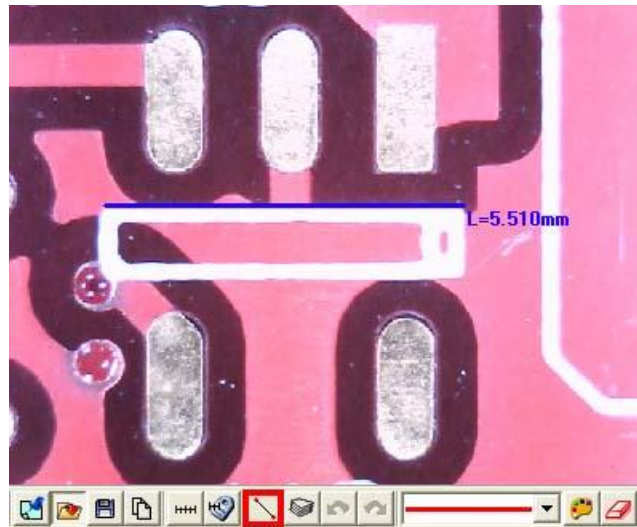

Fig 5-62 Length measurement
- (1) Line: Measure the Length and use . See Fig 5-62.